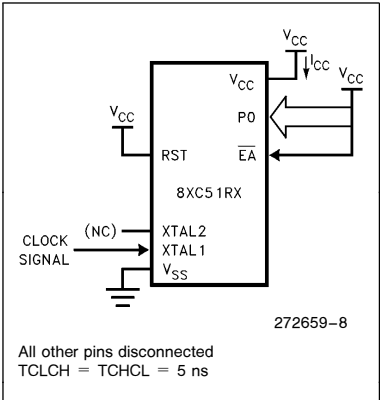

Figure 6.  $I_{CC}$  Test Condition, Active Mode
3. See Figures 6–9 for test conditions. Minimum VCC for Power Down is 2V.